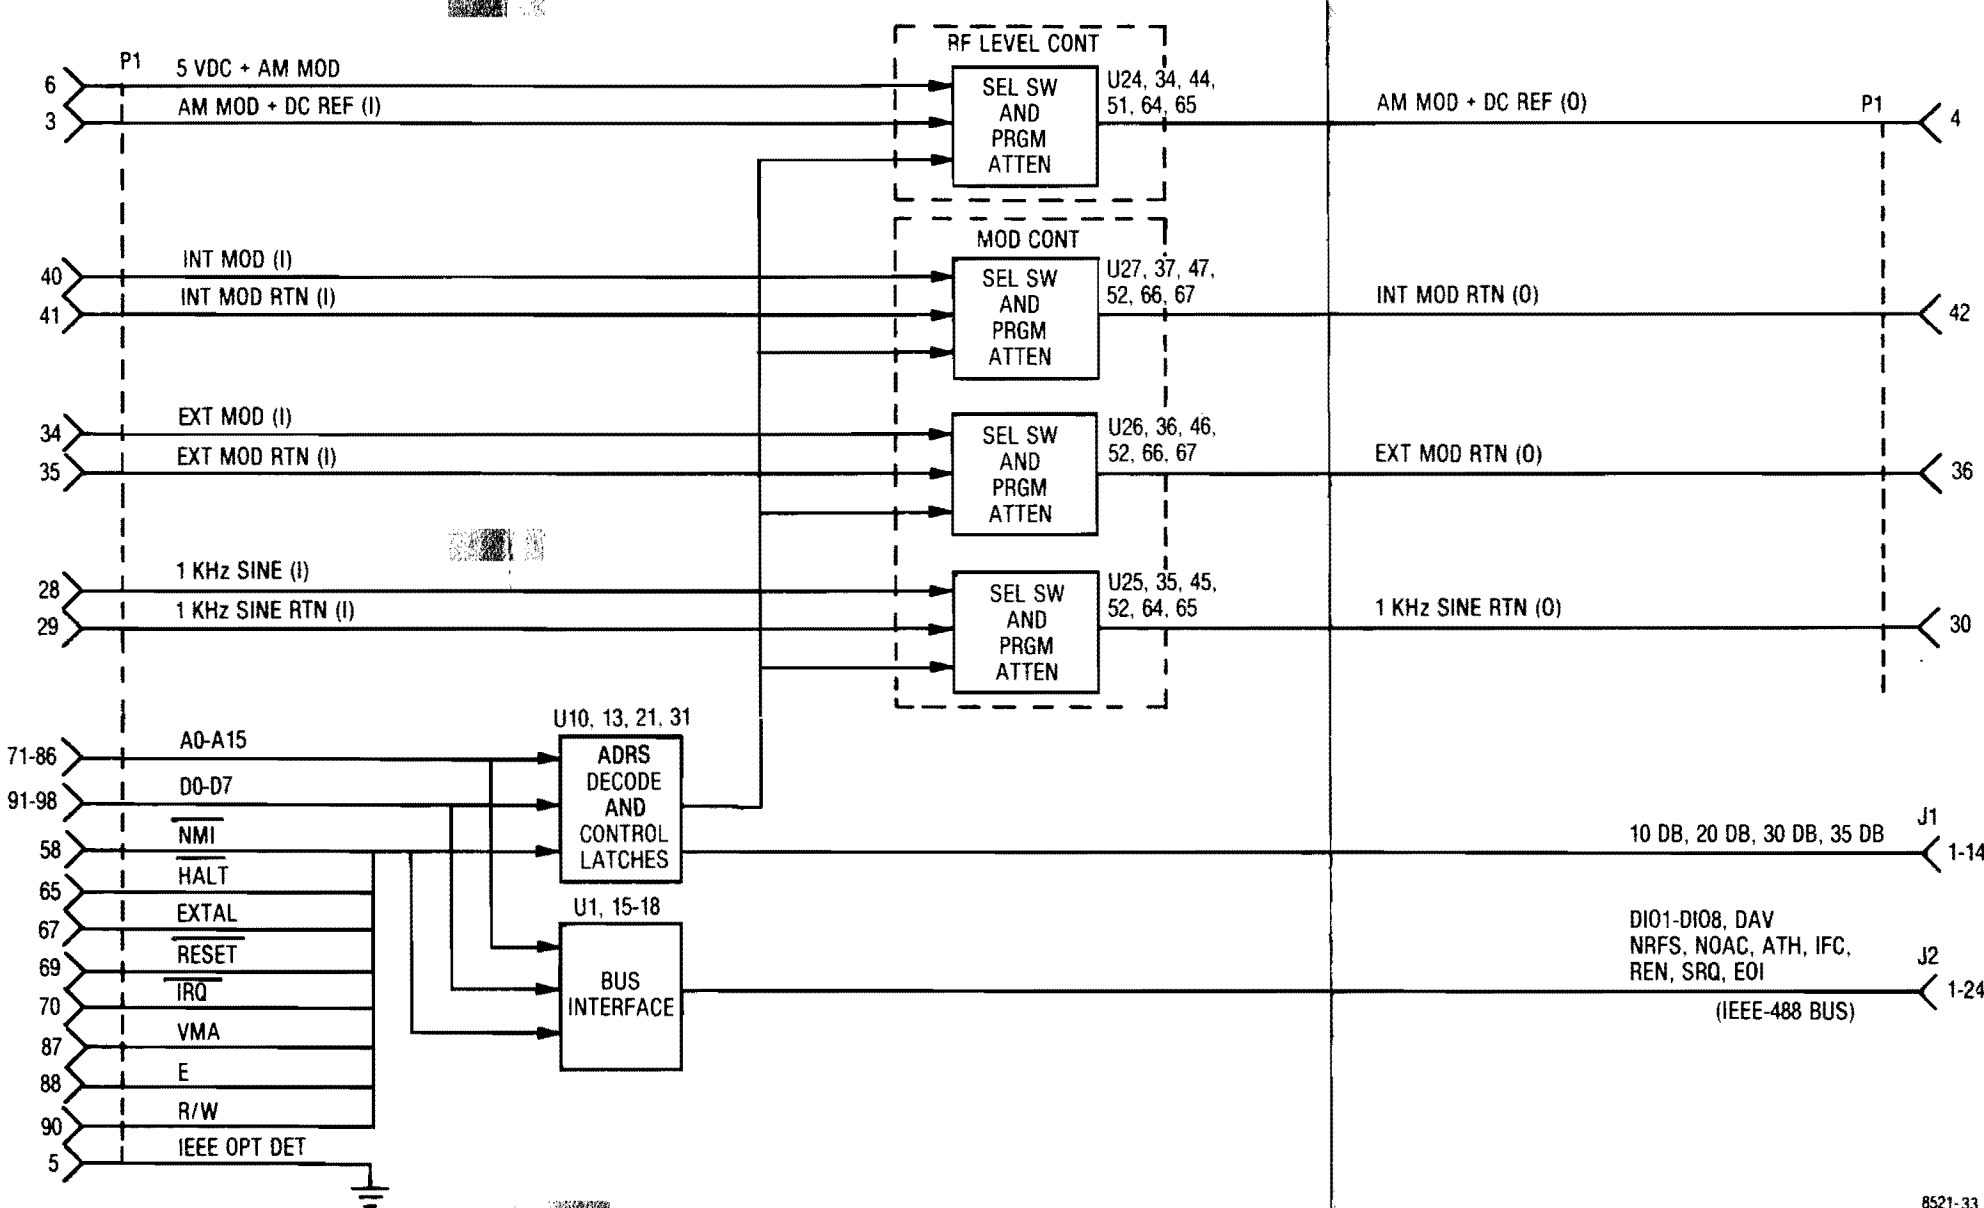

Figure 14-1. IEEE Interface Module A8
**14-1. General.** Remote control of the system is possible using a IEEE-488 bus and the IEEE Interface Module. The Interface Module provides the interface for the 488 bus and provides for processor control of most of the functions normally controlled from the front panel. A block diagram of the IEEE Interface Module is shown in figure 14-1 with its schematic shown in figure 14-2. See section 22 for information on the use of the IEEE Bus for system control.
**14-3. RF Level Control.** The RF Level Control circuitry selects between the 5 VDC + AM MOD or the AM MOD + DC REF (I) input for remote or local control respectively. For remote control the 5 VDC + AM MOD input is electronically attenuated to provide the requested RF output level. For local control the attenuator is programmed for unity gain so that the AM MOD + DC REF (I) signal from the front panel RF level potentiometer controls the RF output level.